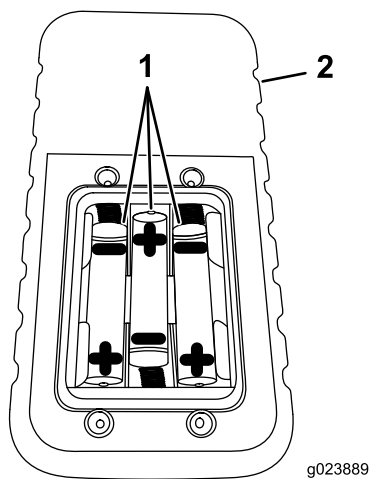

**Figura 58**
2. Remova a tampa (Figura 58).